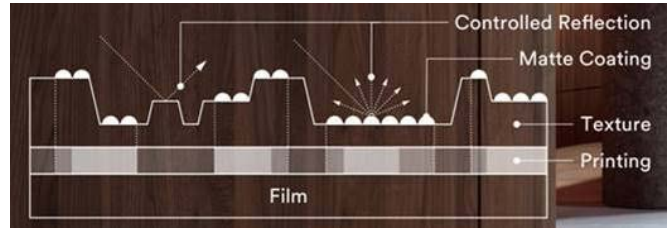

Figure 2. New Controlled Reflection Technology
- Aesthetics — New Controlled Reflection Technology gives Premium Wood Series the realistic appearance and texture of natural wood. The controlled reflection of the matte coating technology is combined with both fine and deep wood grain texture and high-quality printing (see Figure 2).